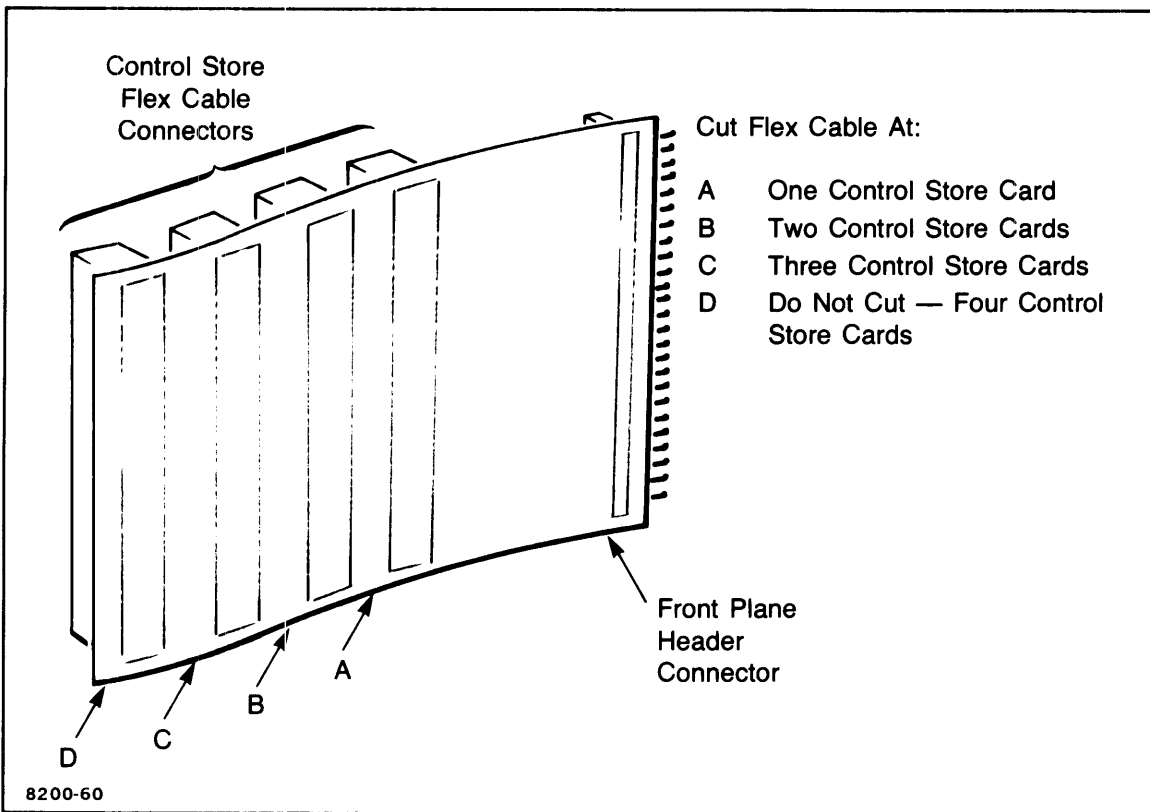

Figure 2-3. Flexible Cable Configuration
- c. Using a pair of sharp scissors, cut the control store flexible cable as close as possible to the far side of the selected connector, as shown in Figure 2-3, as required to fit the new control store card configuration. Cut the self-adhering foam strip to cover the exposed pins of the remaining control store connectors on the flexible cable (Figure 2-3, A thru D). Attach the foam strip to the flexible cable, covering the sharp exposed pins, as a push-pad when attaching the control store flexible cable.